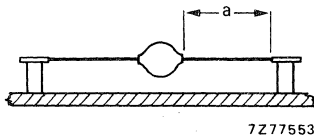

Fig. 3 Mounting method 2.
2. Thermal resistance from junction to ambient when mounted to solder tags at a lead length  $a = 10$  mm; Fig. 3
Fig. 8 Interrelation between the steady-state dissipation excluding power in avalanche region (left-hand graph) and the maximum permissible ambient temperature (no leads of other dissipating components running to the same tie-points) in accordance with the mounting methods mentioned in Figs 3 and 4.